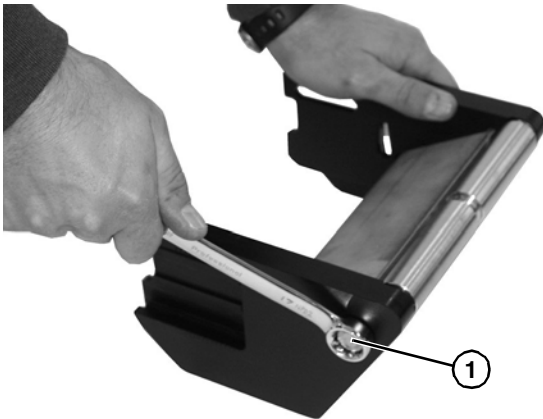

Figure 50
3. Remove head plate bolt (Figure 50, item 1) from each side.